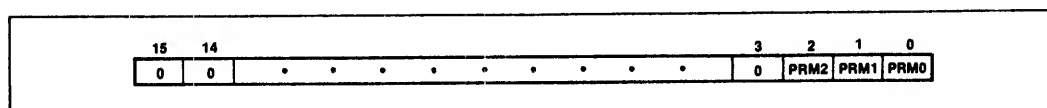

Figure H-17. Priority Mask Register Format
This register is used to mask all interrupts below particular interrupt priority levels. The format of this register is shown in Figure H-17. The code in the lower three bits of this register inhibits interrupts of priority lower (a higher priority number) than the specified. For example, 100 written into this register masks interrupts of level five (101), six (110), and seven (111). The register is reset to seven (111) upon RESET so all interrupts are unmasked.